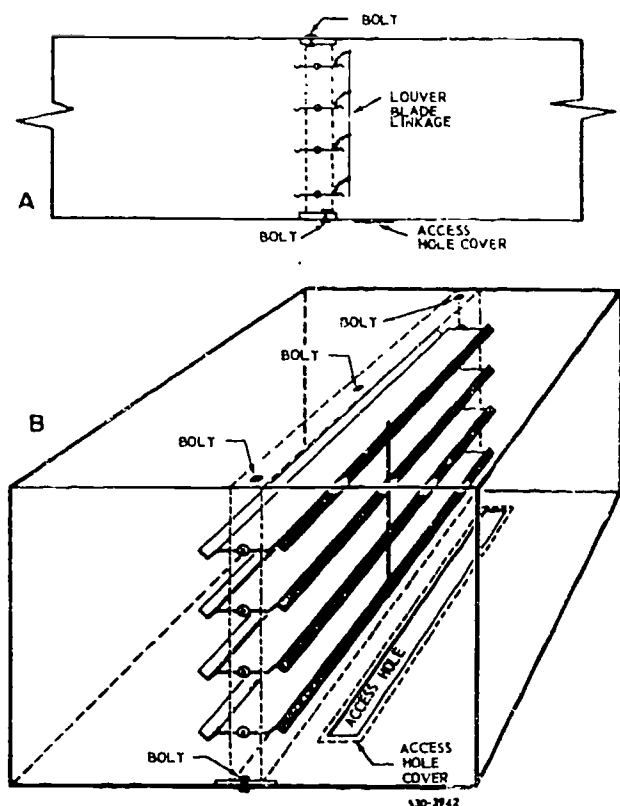
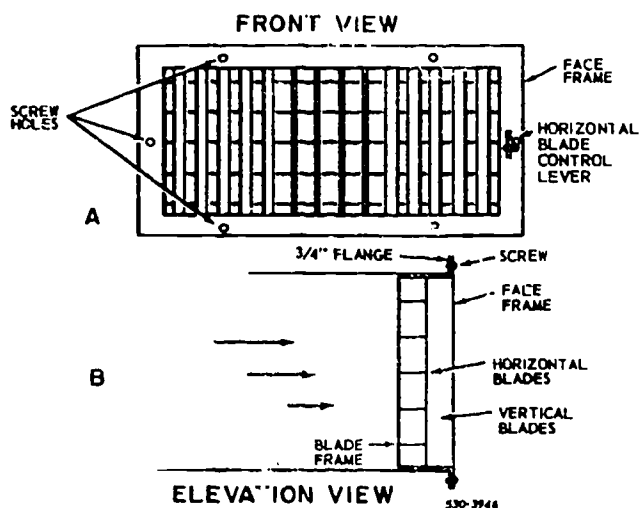

Figure 3-10. Louver damper.
Figure 3-13. Multiple blade register.
drawings this type of volume damper is labeled a multiblade damper, whereas on the other drawings the same damper is labeled a louver damper. Figure 3-10 shows a louver damper used to reduce or shut off the flow of air through a duct. Each of the four damper blades pivots on its centerline axis when the connecting linkage is moved. Although not shown, the linkage can be operated by various means, such as motors, springs, weights, and airflow, or can be manually positioned with gears or quadrant handles. Notice in figure 3-10 how the edges of each blade have V-grooves so that, when the blades are tilted to vertical position, the grooves fit together to make a better seal.
Louver dampers are usually purchased as factory-made assemblies, and your job will be to install them correctly. You attach the louver damper, shown in figure 3-10, to the inside of the straight duct with bolts before you install the duct and connect the louver blade linkage to its actuating device. Notice the access hole and cover plate so that inspection or maintenance can be performed when necessary. During installation be sure to use boltheads that do not interfere with the movement of the blades.
**Registers.** Several types of registers are used at duct supply outlets to control the volume and direction of the airflow. The device shown in figure 3-13 is a multipleblade register with two sets of blades. The horizontal row of blades connects with linkage that is controlled by the hand-operated lever on the right side of the face frame. You can adjust the horizontal blades from full-flow position to full-closed position. The horizontal blades operate somewhat like louver damper blades in figure 3-10, although the pivot axis is usually at the back of each blade instead of at its center. During the adjustment of the horizontal blades from the full-open to the closed position, the front edge of the blades lowers through a 90° arc.
The vertical blades shown in figure 3-13 are not linked together but are set individually to the desired angle of deflection. You can adjust the vertical blades
View B in figure 3-13 shows a side view and the way the blade frame is attached with sheet metal screws to a 3/4-inch flange turned 90° at the end of the rectangular duct. The blade frames should have approximately 1/4-inch clearance when they are installed in a duct.